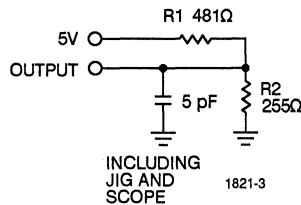

Figure 1b
5. tHZCS and tHZWE are specified with CL = 5 pF as in Figure 1b. Transition is measured ±500 mV from steady state voltage.